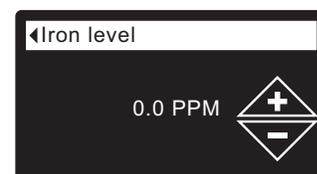

FIG. 49
5. Press the SELECT (O) button to display the Iron level screen (See Figure 49).